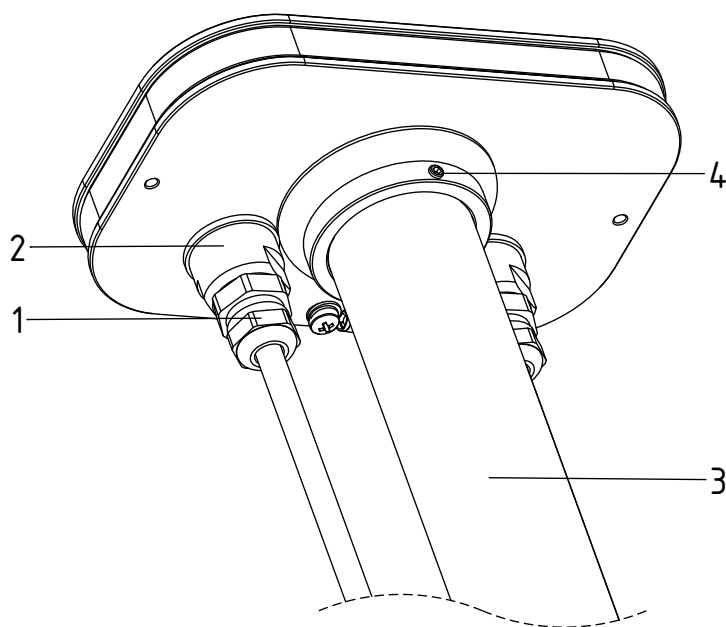

Fig. 6:
- ENERGIZER LR20 ALKALINE POWER(see Chapter 3.4.2 "Changing batteries \(Fig. 6\)", page 16).
- The batteries may only be replaced if it can be ensured that a potentially explosive atmosphere does not exist at this instant of time (see Chapter 3.4.2 "Changing batteries \(Fig. 6\)", page 16).
- Equipotential bonding (PA) shall be established along the entire cable run of the measuring circuit (see Chapter 4 "Operation", page 21).
- To connect the cable, first loosen the cap nut (1) at the gland, then unscrew the adapter with the cable gland (2), see Fig. 6).
3.4.2 Changing batteries (Fig. 6)